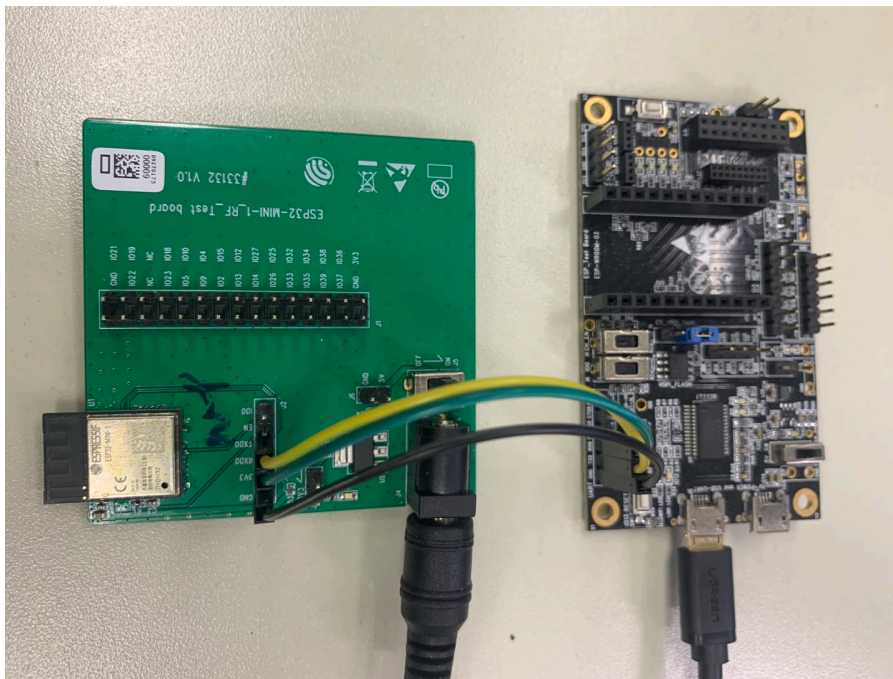

Figure 2-1. Hardware Connection
1. Solder the ESP32-MINI-1 module to the RF testing board as shown in Figure 2-1.